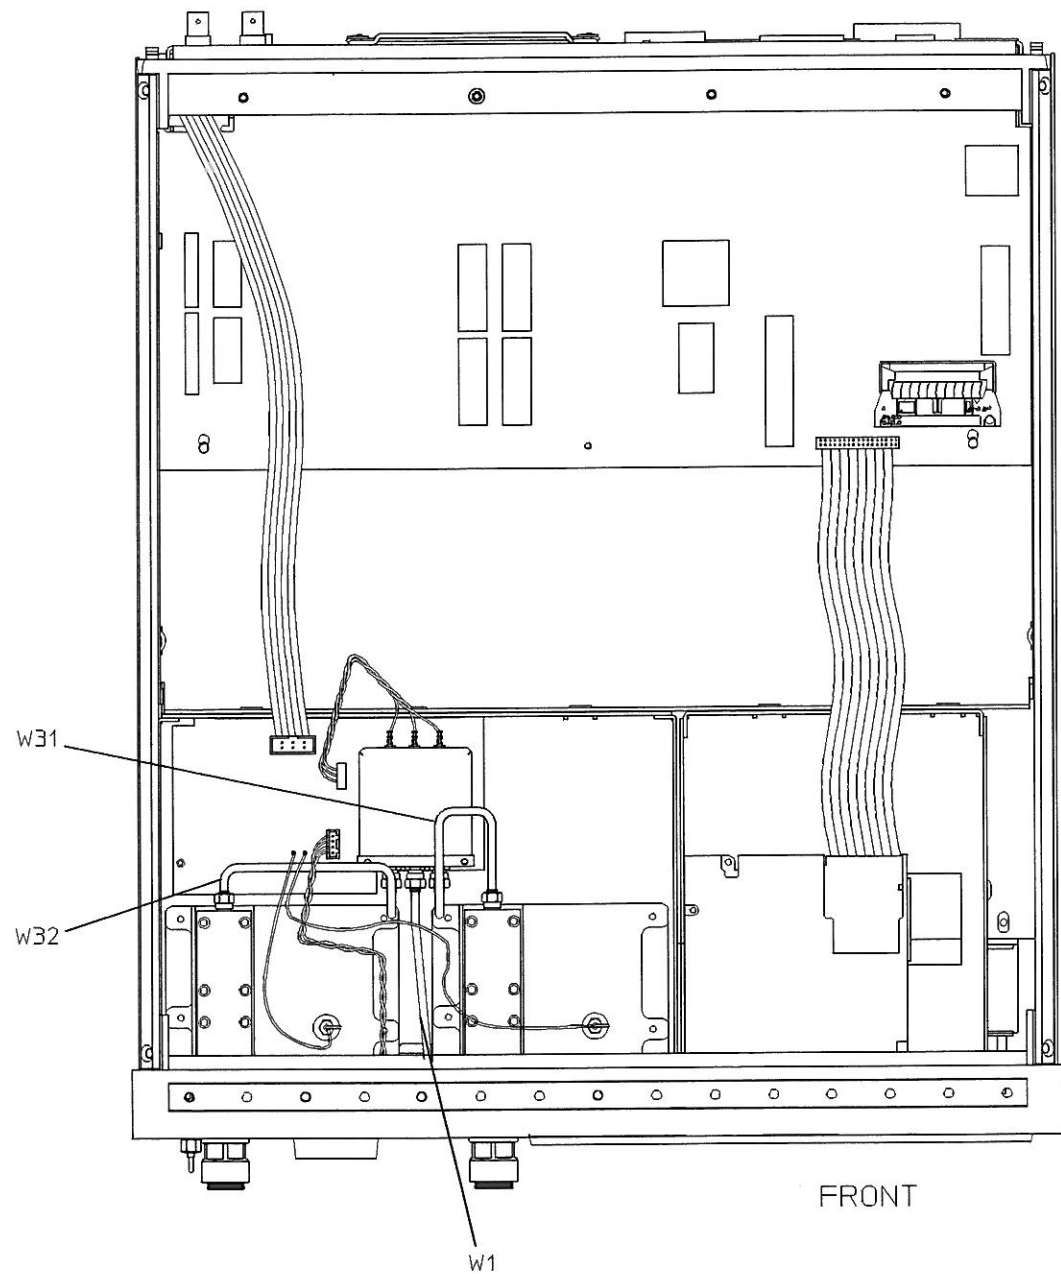

Figure 1-32. HP 8753D Bottom View
- 2. Remove the instrument bottom cover. Refer to Figure 1-32. Verify that cables W1, W31 and W32 are tight.